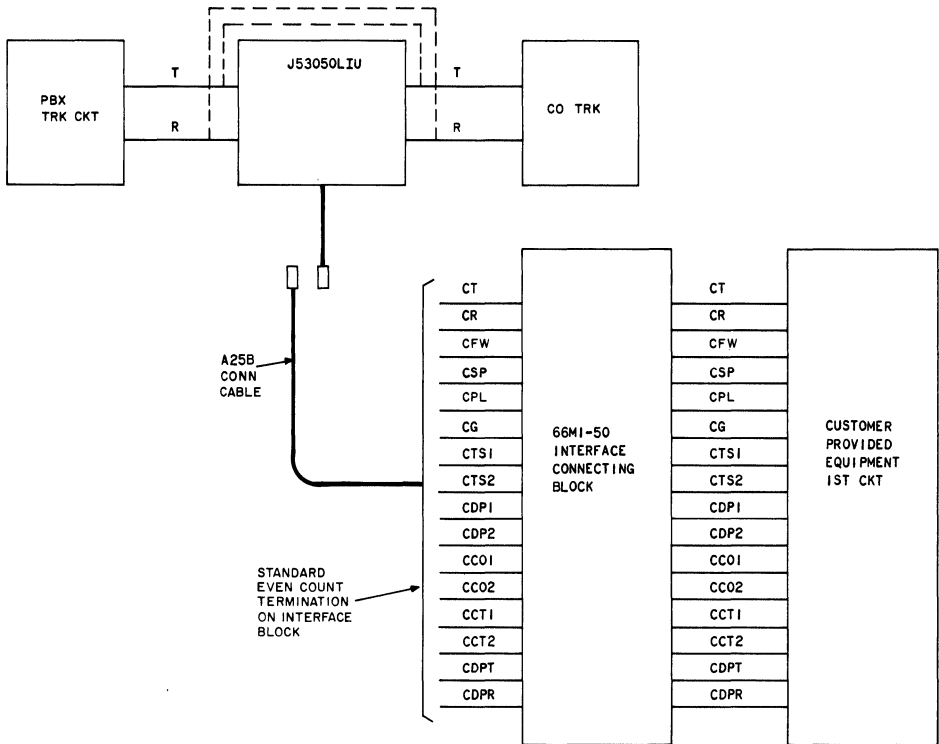

Fig. 4—Block Diagram—Voice Connecting Arrangement TSP
3.02 The IU is inserted in the transmission path between the CO line and the PBX trunk circuit (Fig. 4). Terminate one end of the 6-pair IW cable of the D4A terminal strip (TS A) per Table A using wire-wrap tools. The other end of the cable is terminated depending on the PBX distributing frame at the access points where the CO lines are strapped to the PBX trunks involved. Where necessary, use a 66M1-50 connecting block as a tie point for the IW cable from the IU and the cross-connect wiring from the PBX equipment.